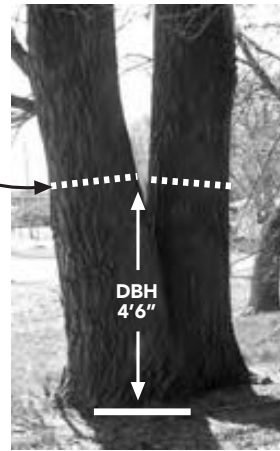
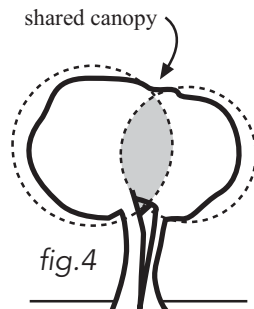

fig.1
fig.4
When applying Cambistat to trees with multiple trunks or trees close together measure at standard DBH height (4'6"). Treat each tree individually (fig. 1), and make rate reductions due to the shared canopies (see fig.4 and 5 below).
- Additional rate reductions need to be made when treating trees with shared canopies (see fig.4 and 5).